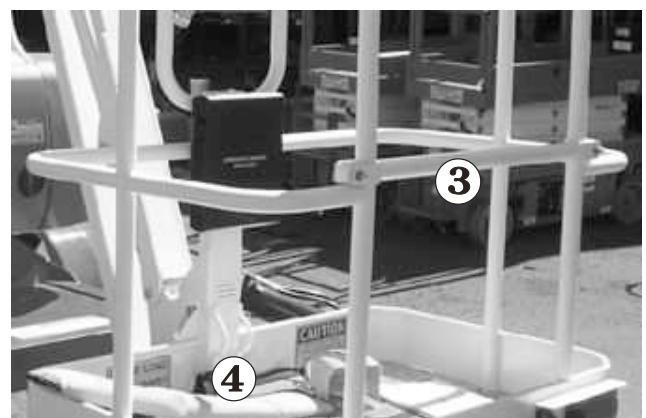

Figure 8.6
3. Enter the platform, close the gravity gate **3**, and attach the lanyard of your fall restraint (safety harness) to one of the anchor points **4** (see Figure 8.6).